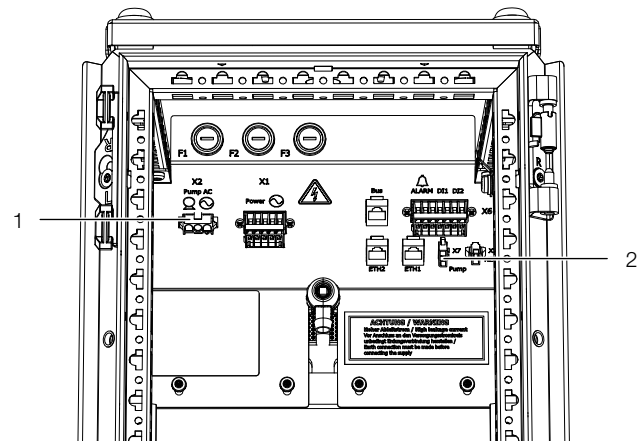

Fig. 68: Connection points – global version
- Route the DC and AC cables of the condensate pump separated upwards to the connection sockets in the LCP (fig. 68).